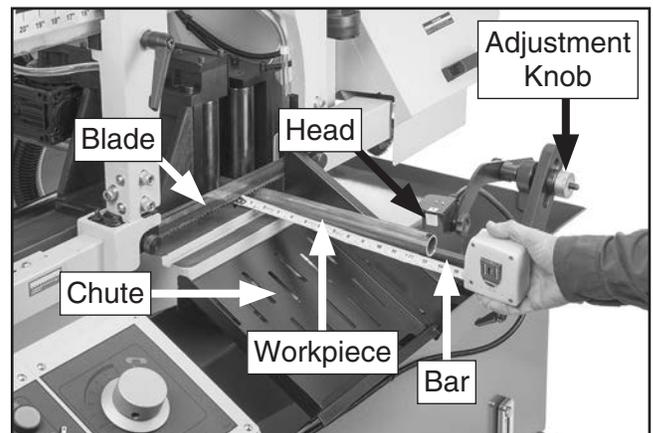

Figure 48. Proximity sensor set to cut 13" lengths of pipe.
The proximity sensor (see **Figure 48**) on the Model G0886 functions as a work stop in manual operation mode and as a work stop and trigger for the feed system in auto operation mode. It can be set for repetitive cutting operations up to 16" long.
There are three components to the proximity sensor. The head (see **Figure 48**) detects the presence of metal materials within a 1/4" range. The bracket and bar allow the sensor head to be positioned to accommodate a variety of workpiece shapes and sizes. The adjustment knob moves the sensor bracket and head in fine increments to ensure exact cut lengths.
The cutoff chute (see **Figure 48**) must be installed when using the proximity sensor. Processed material needs to be quickly removed from the area for the proximity sensor to function correctly.
7. Extend workpiece past blade the same length of pieces needed. Measure from outside of blade to end of workpiece, as shown in **Figure 48**.
9. Position proximity sensor so arrow on sensor head points directly at end of workpiece, as shown in **Figure 48**. Sensor head needs to be within 1/4" of material for detection.